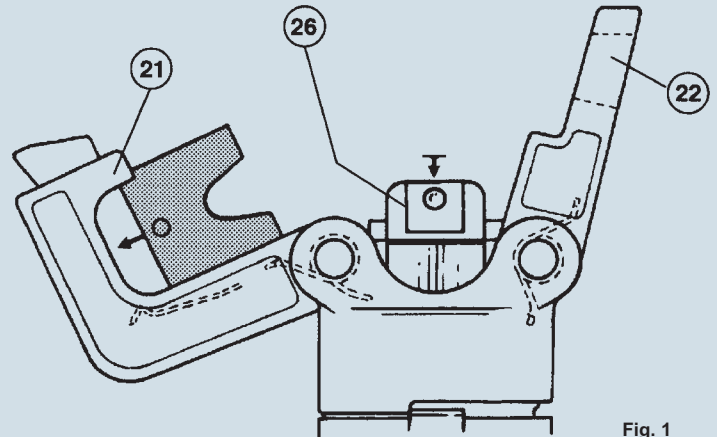

Fig. 1
With reference to Figures 1 and 2, select a pair of matrixes suitable to the type of contact and insert them in the housings: one in the matrix support (21), the other one in the matrix pusher support (26). (NB: the two matrixes of each pair are the same). Insert the contact by resting it in the locator with the tip forward, then close the head. The contact crimp housing will be accessible in the mouth between the matrixes.